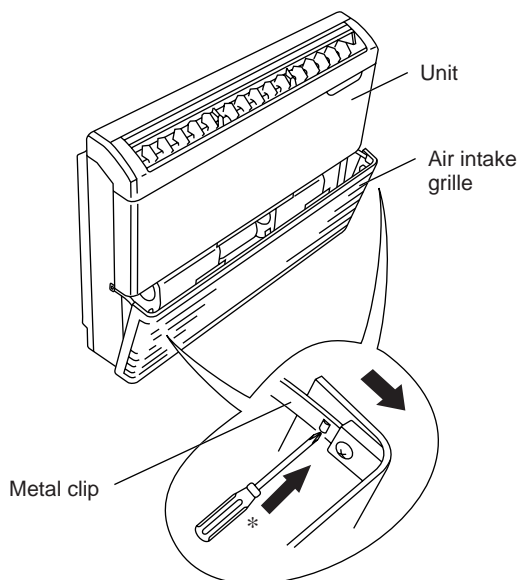

Fig.2
- (2) Remove the metal clips connecting the unit and the grille. First, with a screwdriver, loosen the * marked screw a little at the right side clip (DO NOT loosen it too much, otherwise, the screw and small metal parts will fall off inside.), then press on the stopper and pull off. (Fig. 2)
- (3) Do the same procedure for the left metal clip.
- (4) Unlatch the 2 tabs on the lower part of the grille to take it off completely.